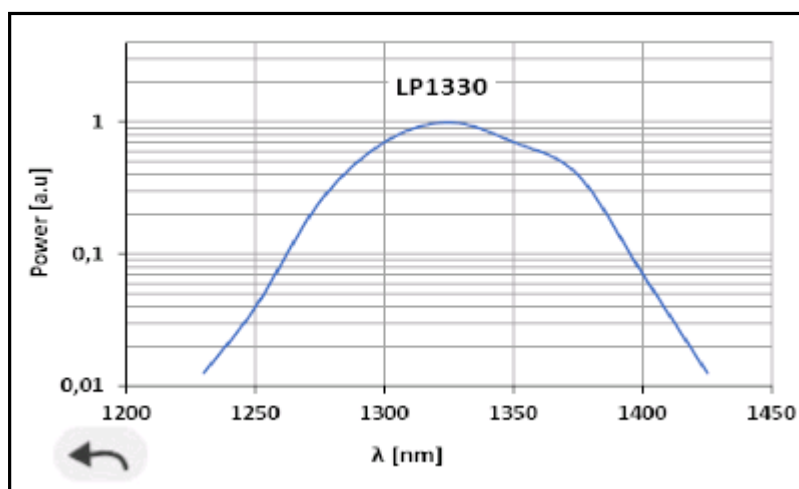

Figure 4. Spectrum view screen
- **Arrows (4):** using the up/down arrows will increase/decrease the current percentage of the nominal output power by 1%.
- **Slide bar (5):** it permits you to adjust the output power from 0% to 100%. While dragging the slide bar, it will be in yellow, and it will change to green once a value has been selected.
On the bottom of the screen, if we click on "Spectrum view" (6), we will see the spectral power distribution of the corresponding SLED (see **Figure 4** on next page). The arrow (7) enables to return to the initial screen.